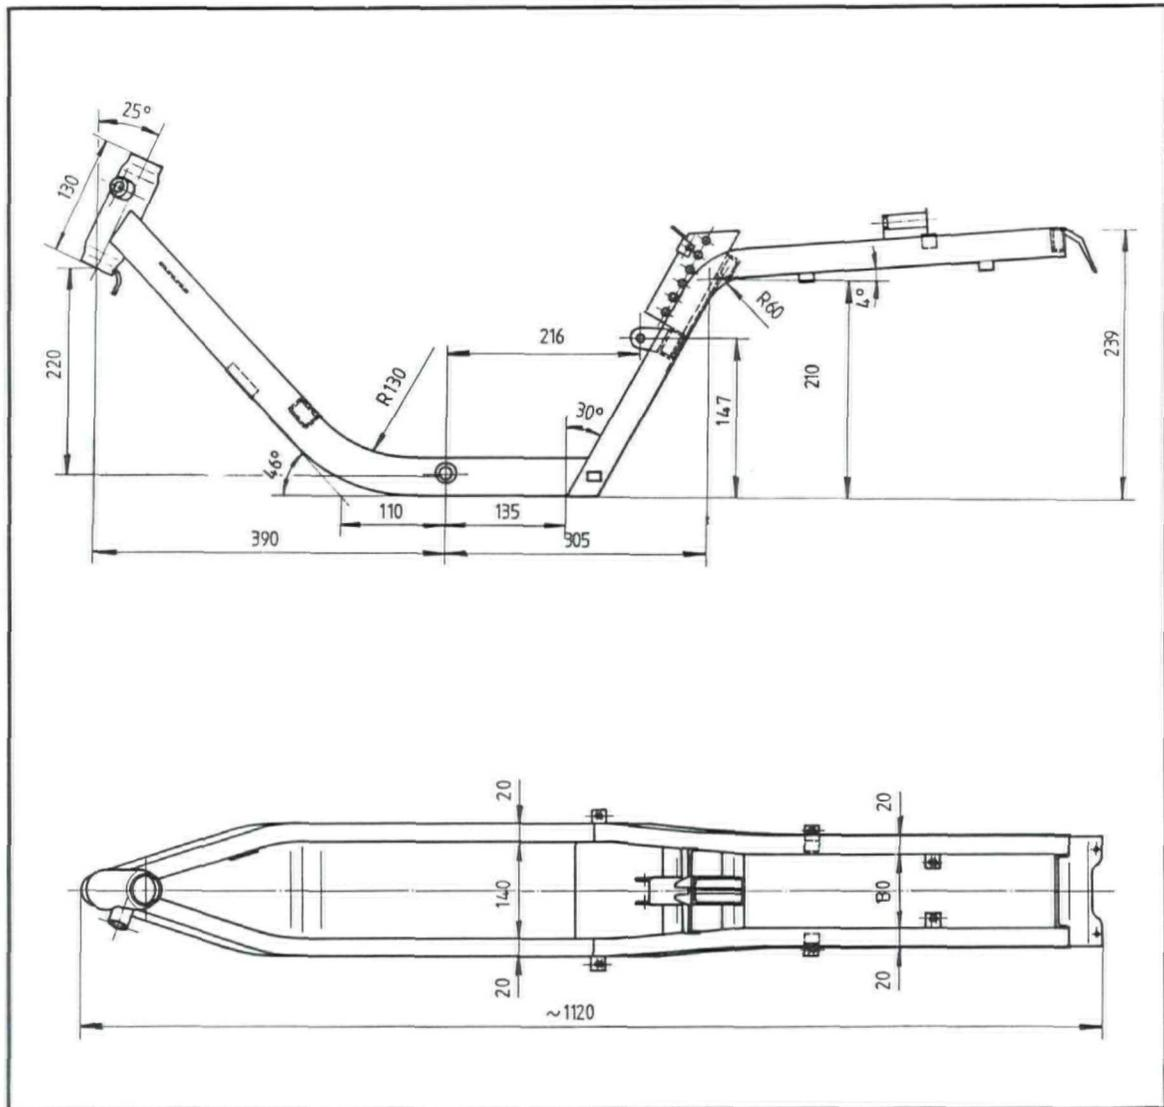
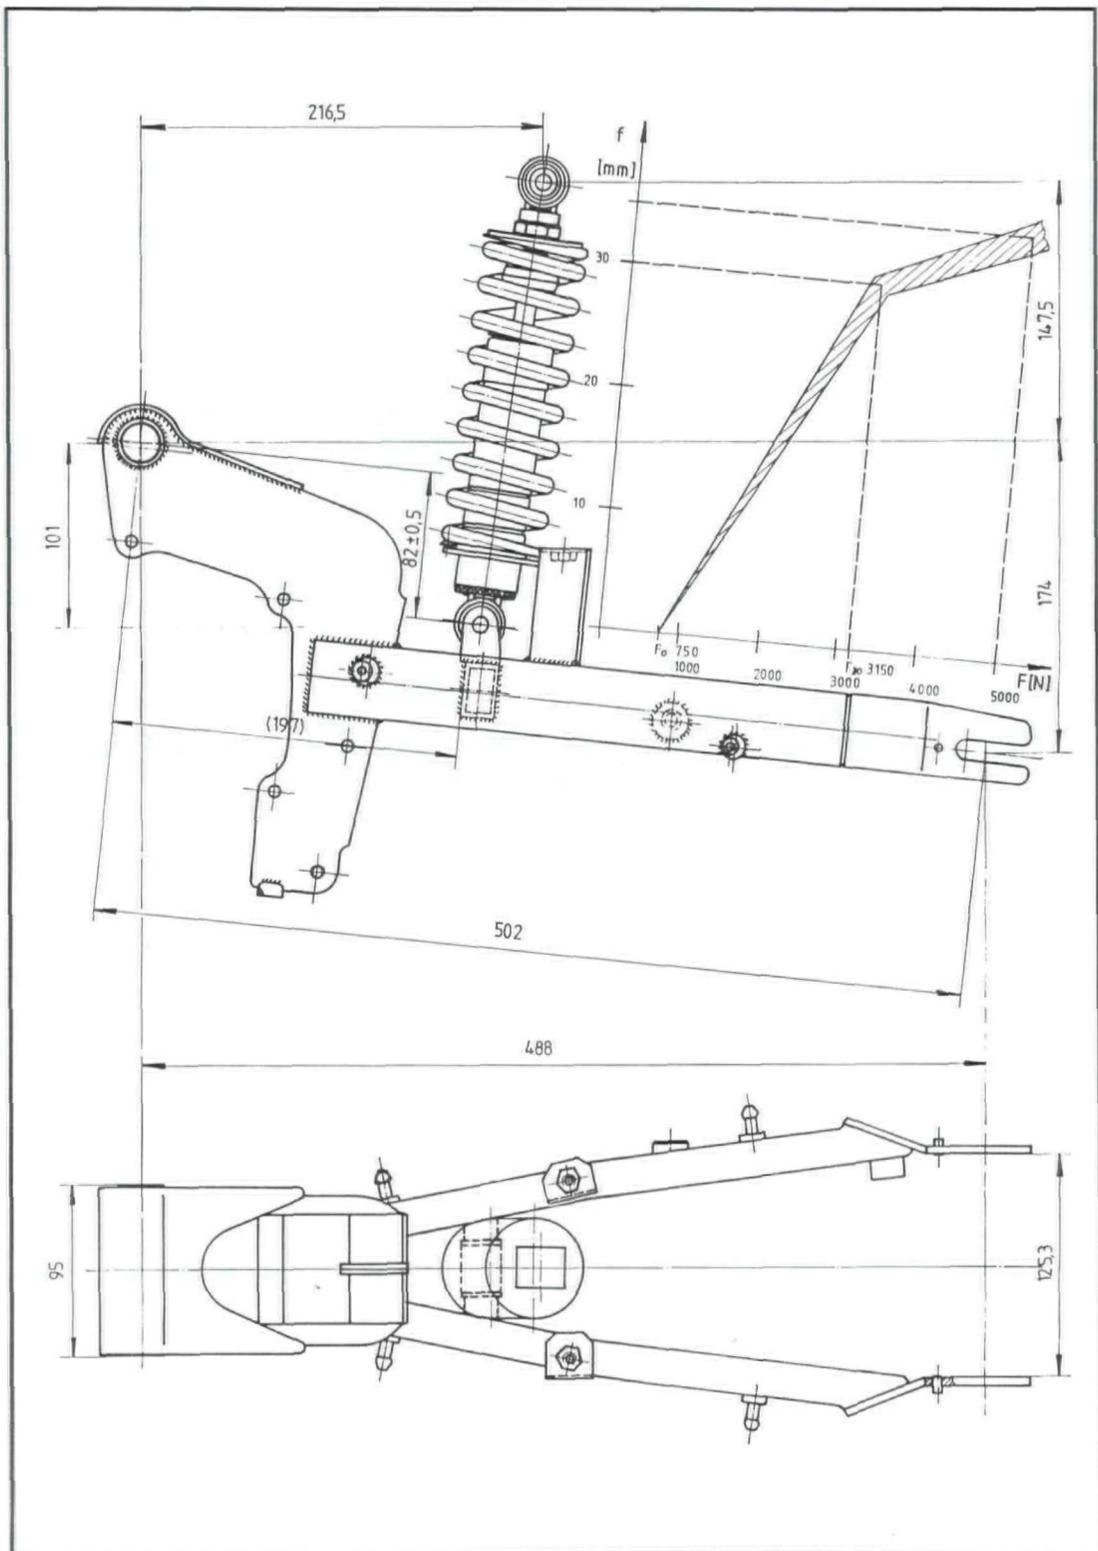
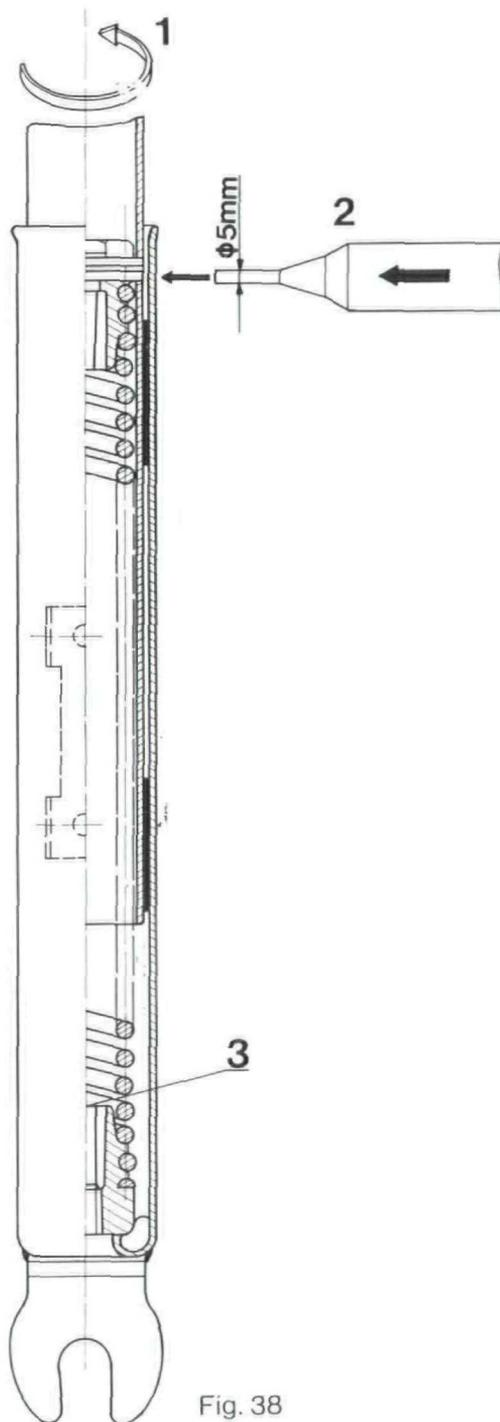

Fig. 36
Fig. 37
Fig. 38
The frame is rectangular steel tube construction type (fig. 36). Engine is peculiarly incorporated with supports in rear swinging arm with hydraulic monoshock absorber (fig. 37 and 25). Front forks are common telescopic-spring type (fig. 38).
The front fork lower leg can be removed as it is shown in fig. 38.
- by unscrewing remove lower leg from the front fork (fig. 38/1)
- the upper plug should be removed after taping out the elastic pin (fig. 38/2)
- the lower plug can be removed with longer allen key (9 mm), (fig. 38/3)